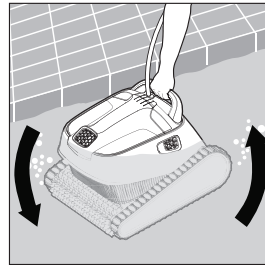

FIGURE 5
2. Lower the cleaner into the pool by the handle (see **Figure 5**).
3. Gently tilt the cleaner from side to side or turn it upside down to release trapped air. See **Figure 5**.